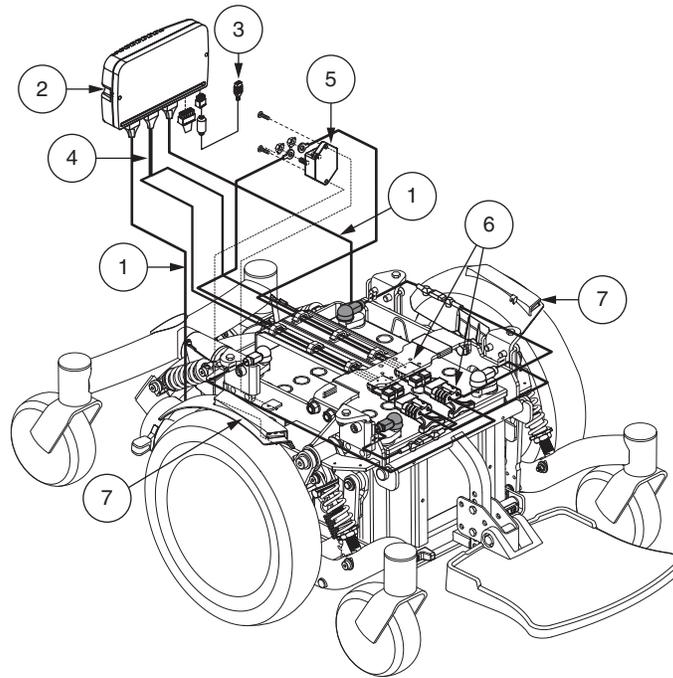

Figure 1. Q6 Series Electrical Components
Your power chair has two main assemblies: the seat and the power base. Typically, the seat assembly includes the armrests, seatback, and seat base. The power base assembly includes two motor/brake assemblies, two drive wheels, four caster wheels, two batteries, and wiring harnesses. **See Identification Key (pages 4-5) and figure 1.**
The electrical components consist of the controller assembly, the batteries, and the motors. The batteries, motors, and controller power module (if equipped) are located on the power base assembly. The controller is located on the seat assembly. Connectivity between the controller and the motors, batteries, and the battery charger is provided by one or more wiring harnesses. **See figure 1.**
NOTE: Prior to initial use, ensure that the fender light switch is connected. See figure 1.
5. Plug the controller connector into the rear of the power base. **See figure 1.**